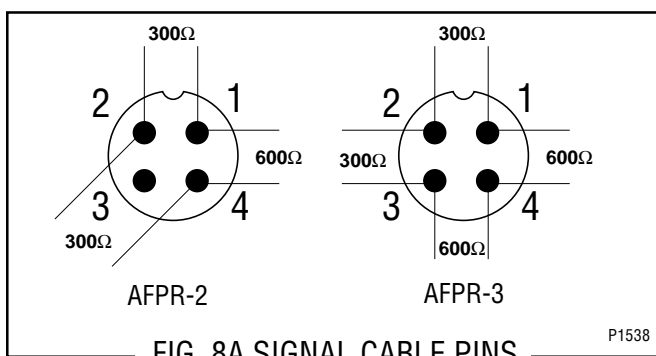

FIG. 8A SIGNAL CABLE PINS
4. Check resistance across pins as shown in Fig 8A.
5. With the probe box switch in "LOW" position check the ohms across the signal cable pins, see Fig. 8A.